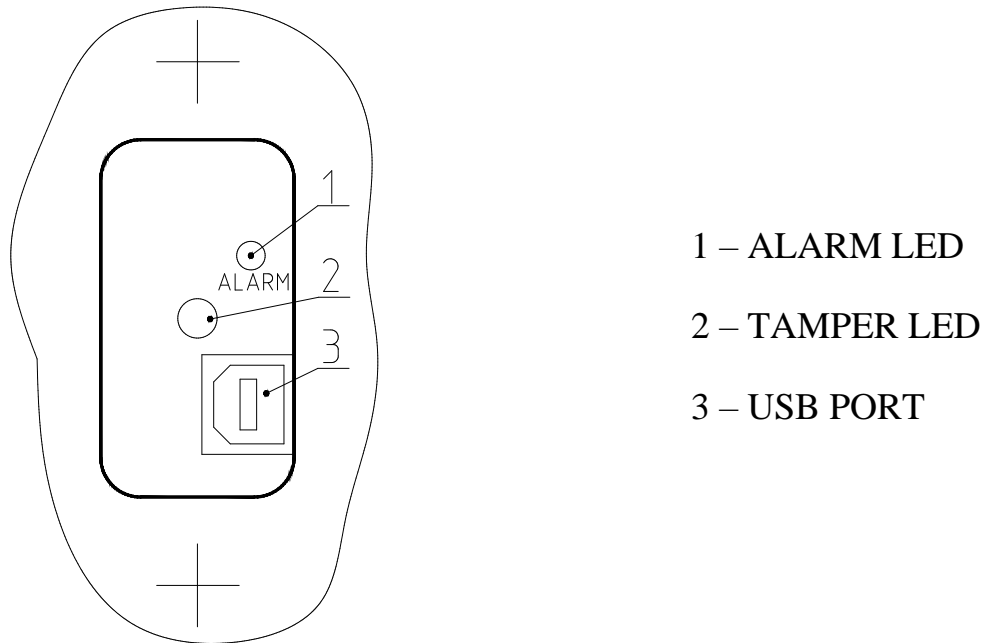

Figure 1.3 – Configuration elements of ZEBRA-24.60
1.4.3.1 Figure 1.3 shows the configuration elements located under the lid.